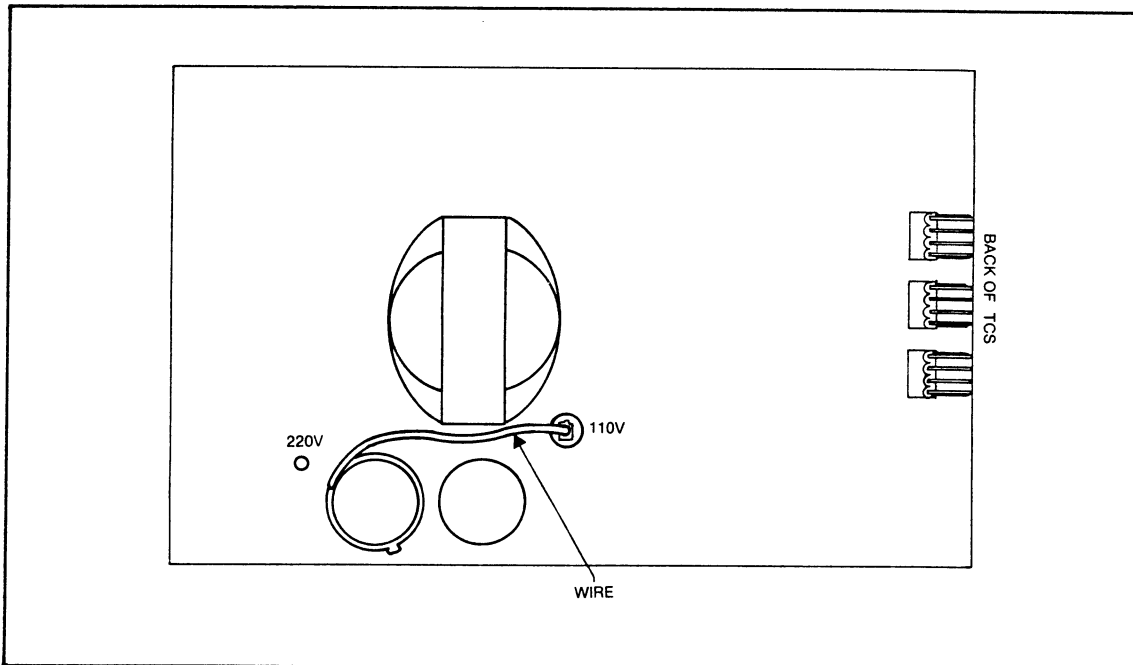

Figure 4-3. Line Power Voltage Pins
5. Locate the Line Power Voltage Pins on the Power Supply PCA (Figure 4-3). To select 180-264V operation, connect the wire to the pin marked 220V. For 90-132 operation, place the wire on the pin labeled 110V. It is not necessary to change the power input fuse